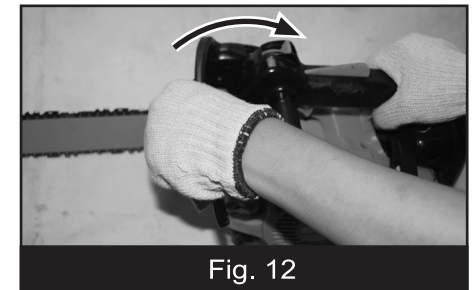

Fig. 12
- CAUTION:** 1. After starting the engine, squeeze throttle trigger slightly to release throttle latch and pull safety guard back towards the operator immediately. (Chain brake RELEASED position) (Fig. 12)